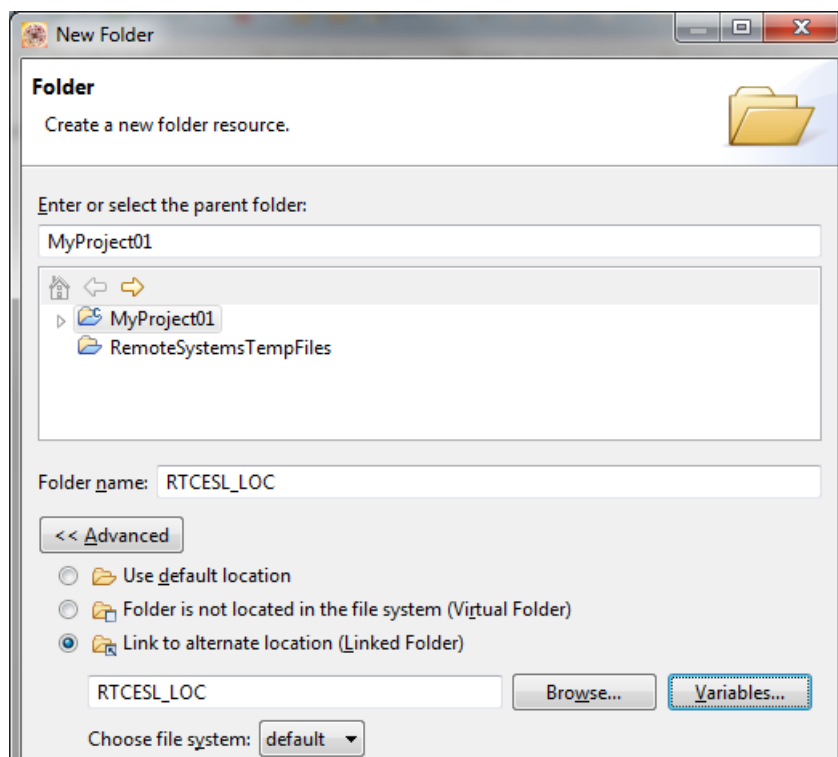

Figure 1-17. Folder link
4. Click Variables..., select the RTCESL_LOC variable in the dialog, click OK, and/or type the variable name into the box. See Figure 1-17.